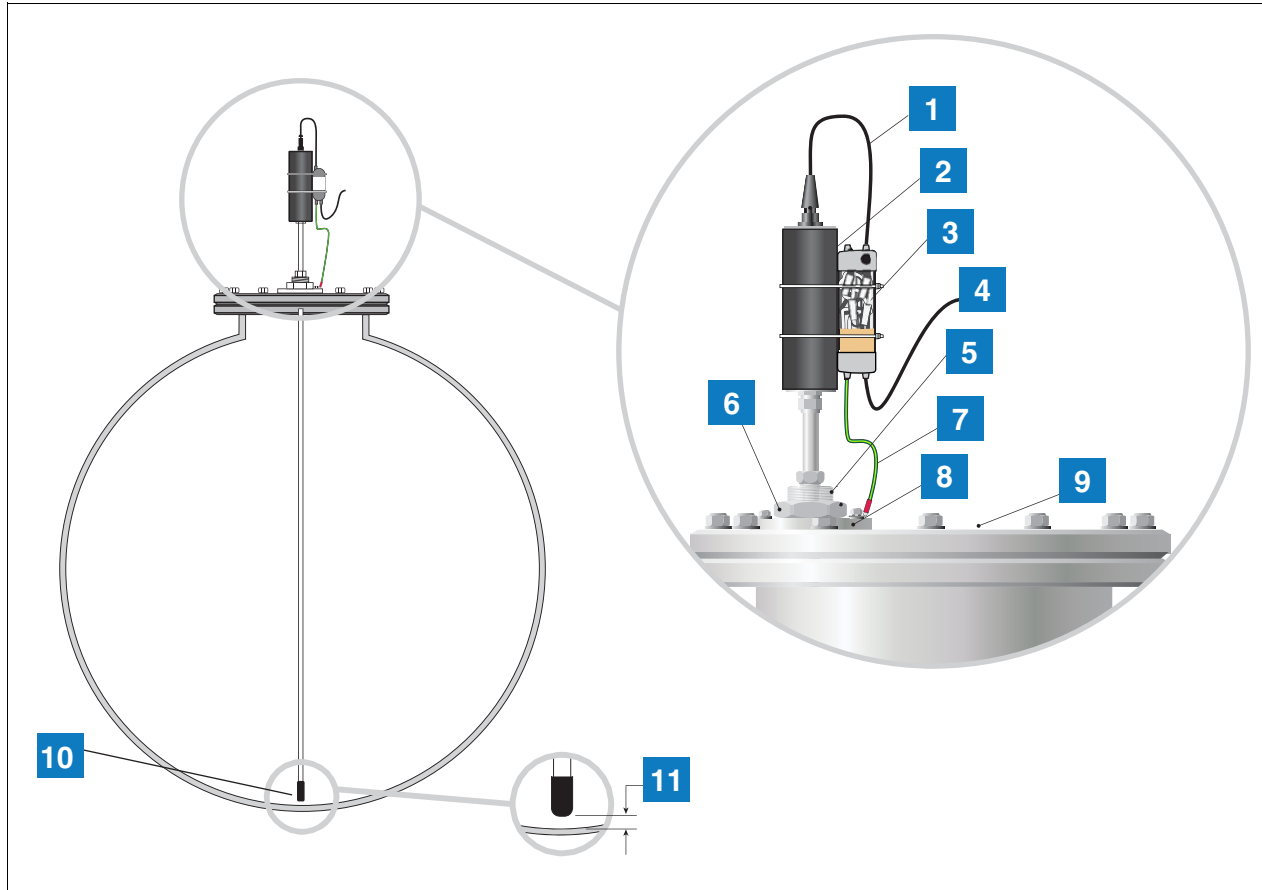

Figure 7. Zone 1 Mag Probe Installation with Process Connection (Gland)
Certain installations may require a modified probe mounting arrangement consisting of a process connection (gland) mounted directly to the tank lid as shown in Figure 7. Either a dedicated tapping or a suitable flange, tapped G2 inch 11 threads per inch to DIN 2999 (BS2779) must be provided. Prior to installing or servicing the Magnetostrictive Probe, remove the AC input power going to the TLS Console and verify that the console power is off. During servicing, disconnect the probe cable and remove the probe from the tank.
1. Reference Figure 7 to identify the hardware required to complete this installation.
7. Connect the probe leader cable to the field wiring using a weatherproof junction box or an optional dual-channel surge protector (P/N 848100-002) as shown in Figure 7.
LEGEND FOR NUMBERED BOXES IN Figure 7